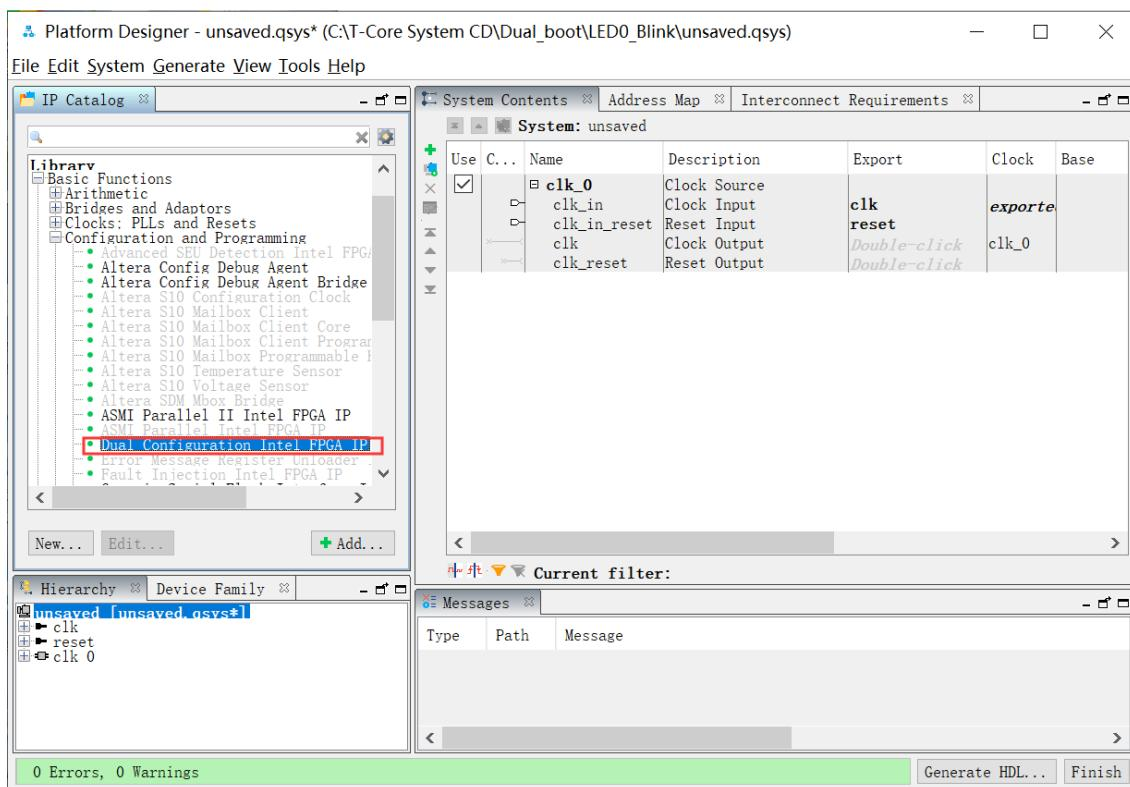
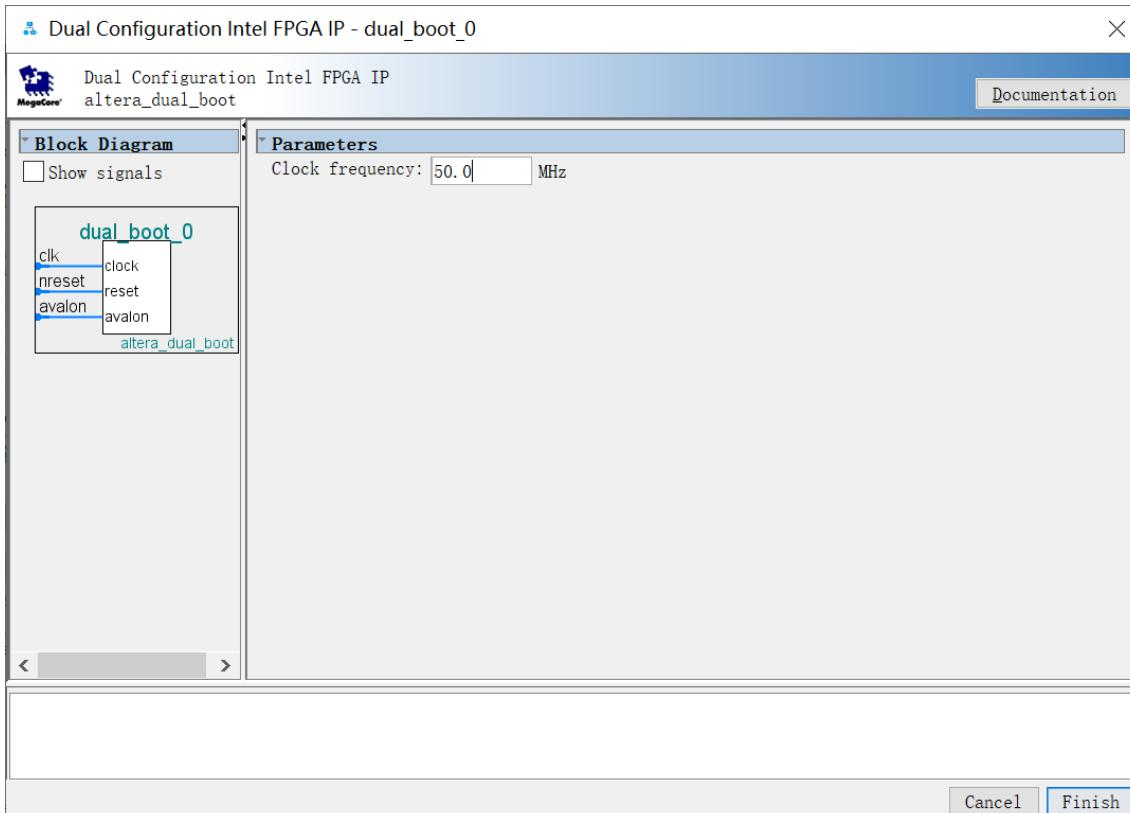

Figure 4-5 Select Dual Configuration Intel FPGA IP and click.
Figure 4-6 Open wizard and click Finish.
2. Please choose **Library > Basic Function > Configuration and Programming > Dual Configuration Intel FPGA IP** to open wizard of adding dual boot IP. See **Figure 4-5** and **Figure 4-6**.